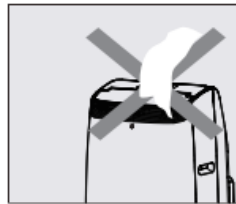

Fig. 13
- Never rest objects of any kind on the appliance; (Fig. 13)